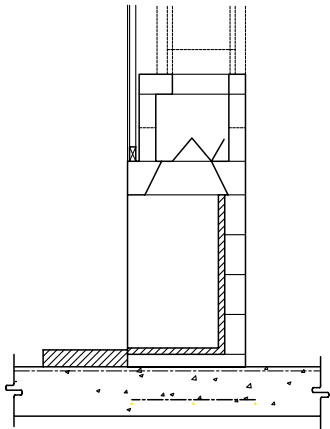

**FIGURE 75**
This means that off-grade wood floor systems shall be constructed in such a way that all wood floor joists and subflooring shall stop thirty three inches (33") out from the front of the Magnum 86072 firebox. (Figure 75)
**Adjoining Walls.** Side walls and walls to rooms adjoining the Magnum 86072 Series fireplace installations cannot be closer than forty eight inches (48") to the finished fireplace opening. (Figure 75)